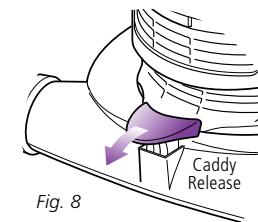

Fig. 8
- 8 To release the vacuum from the caddy, press caddy release button and lift the vacuum up. (**fig. 8**)